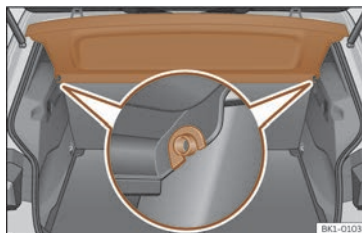

Fig. 169 In the luggage compartment: removing and installing the shelf.
- Remove the rear shelf from the side supports >>> **Fig. 169** by pulling it upwards and then take it out.
- Insert the cover horizontally so that the "recess" slots over the support fittings >>> **Fig. 169** and press down until it engages.